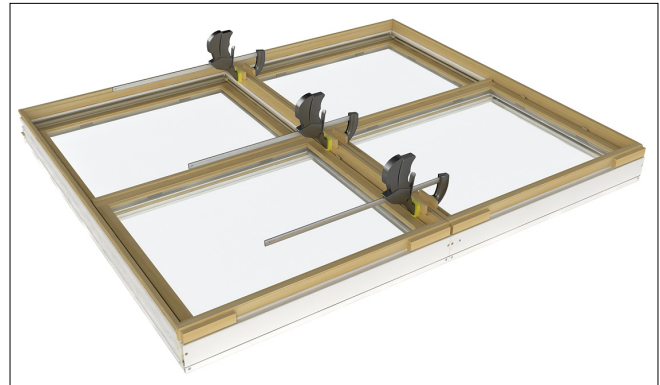

Figure 5
5. Position the units together in the desired configuration. Check to be sure that the frames at both ends of the mullion are flush and the nailing fin kerfs are aligned. Lightly clamp units together on interior (use wood blocks to protect interior) near each end to hold two mulled units in place. See figure 5.